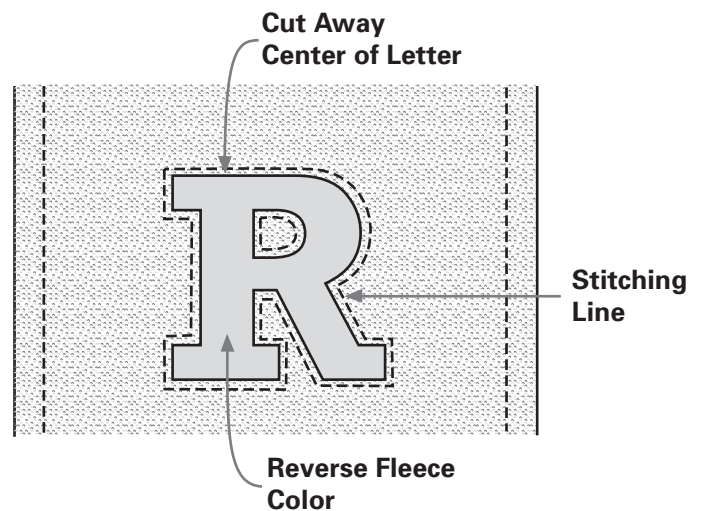

Fig. 3-5
8. Use small, sharp scissors to carefully cut out the center of each letter, cutting only through the top layer of fleece. The reverse fleece color will show through the letter. (Fig. 3-5)